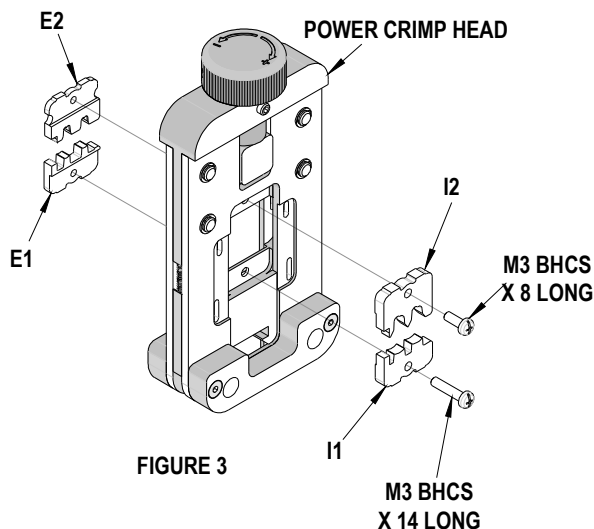

FIGURE 3
3. Remove the crimp dies as shown in Figure 3.
3. Insert the Punches or dies (E2 and I2) into the top slots of the nest. Install the M3 x 8 long BHCS and lightly tighten in place. See Figure 3.